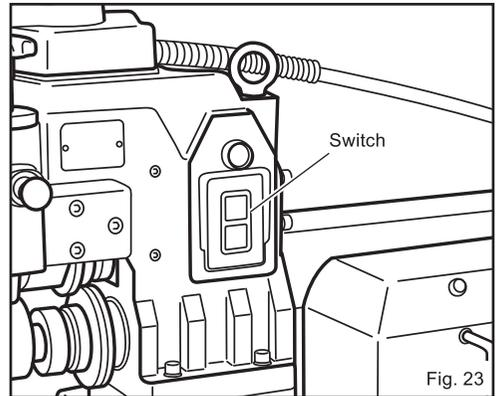

Fig. 23
3. Adjusting the head (Fig. 23)